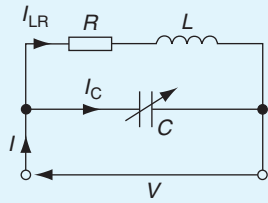

Figure 16.13
6. A parallel circuit as shown in Fig. 16.13 is tuned to resonance by varying capacitance  $C$ . Resistance,  $R = 30 \Omega$ , inductance,  $L = 400 \mu\text{H}$  and the supply voltage,  $V = 200 \text{ V}$ ,  $5 \text{ MHz}$ .